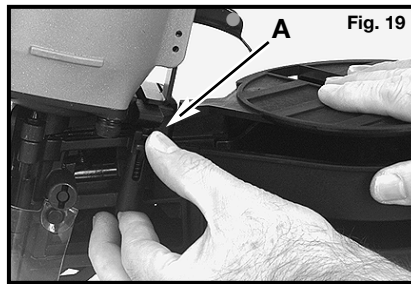
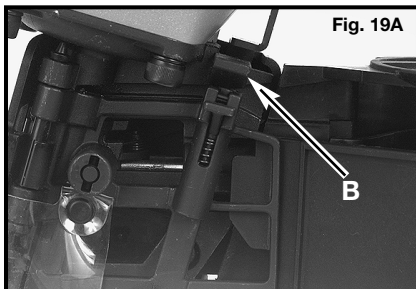
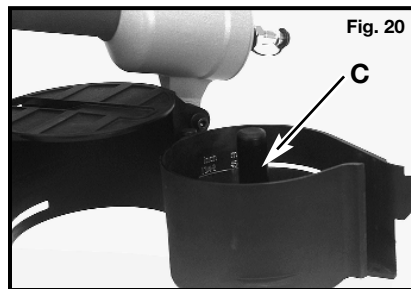
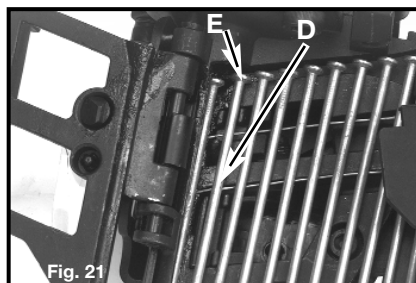

Fig. 19
Fig. 19A
Fig. 20
Fig. 21
2. Hold magazine nail holder (A) as shown in Fig. 19 and depress latch (B) Fig. 19A. Open feeder cover and allow magazine nail holder to swing open (see Fig. 20).
3. Adjust nail support (C) Fig. 20, for desired nail length. The nail support can be lifted and rotated to four different positions to provide support for different length nails (see list on the inside of the magazine nail holder).
4. Remove band from a coil of nails and uncoil approximately 3" of nails. Position coil into magazine nail holder with center of coil around nail support (C) Fig. 20. Position the second nail in the feed fingers (D) Fig. 21, and nail heads in nail head track (E) Fig. 21.